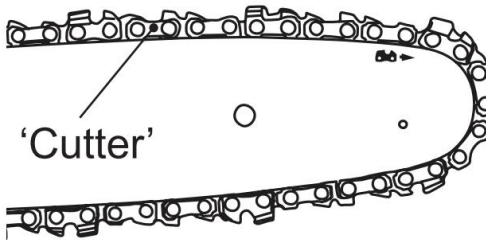

Fig. 8
- Slide the saw chain (C12) into the groove around the guide bar (C13). Ensure saw chain (C12) is installed in correct direction of rotation. (Fig.8)